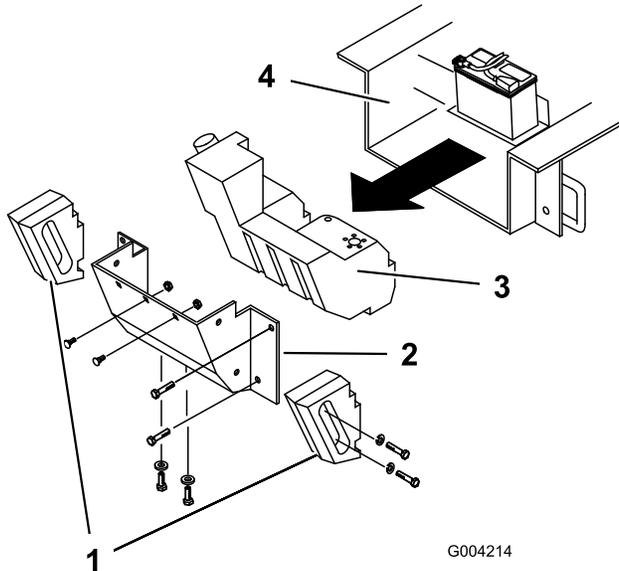

Figure 61
Using a flashlight, open the hood and inspect the area under the engine on a regular basis. When the debris is 1 to 2 inches deep, complete the following procedure (refer to Figure 61 throughout this procedure):
4. Remove the bolts, washers, and lock washers securing the 2 side weights, removing the weights (Figure 61).
7. Remove the 6 nuts and bolts securing the rear panel, removing the panel (Figure 61).
9. Slide the fuel tank to the rear (Figure 61).
16. Slide the fuel tank part way into the chassis (Figure 61).
22. Replace the rear panel and secure it with the 6 bolts and nuts removed previously (Figure 61).
24. Install the side weights with the bolts, washers, and lock washers removed previously (Figure 61).